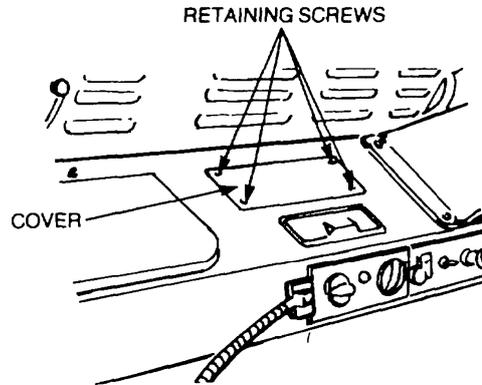

Figure 191 Map Reading Light Removal
- a. Remove the four screws securing the cover to the dash panel (Figure 191).